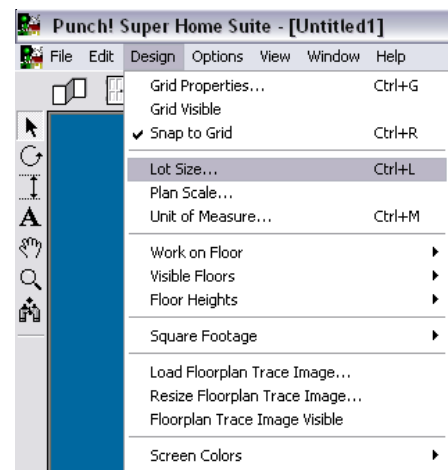

Figure 9
2. Next, use the mouse and **open** the **design menu** as shown in **figure 9**. **Click** on **Lot size** and **enter 150 feet** for the width and **150 feet** for the depth.